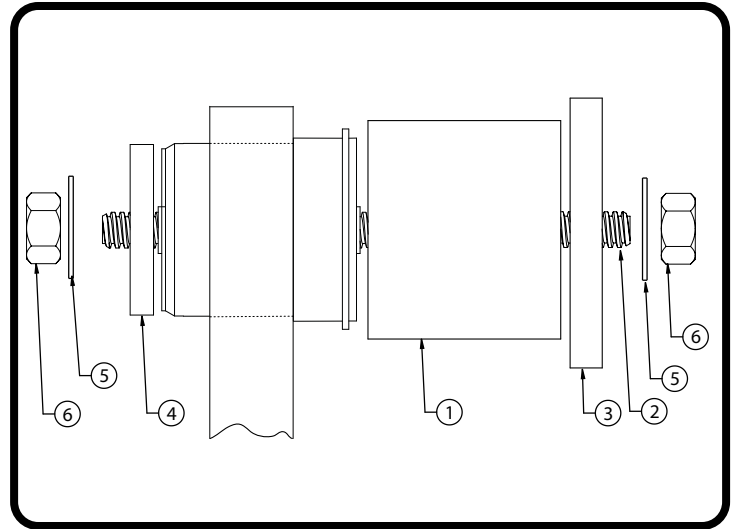

Figure 1
1. Begin by sliding the 2 3/8" sleeve (1) over the OEM bushing. Insert the 1/2"-10 x 8" threaded rod (2) into the OEM bushing. Next, install the large 2 5/8" diameter flat-sided washer (3) onto the threaded rod on the sleeve side. Install the small 1.825" washer (4) on the other end of the threaded rod, followed by a 1/2" washer (5) and nut (6) on each end of the threaded rod. See Figures 1 & 2.